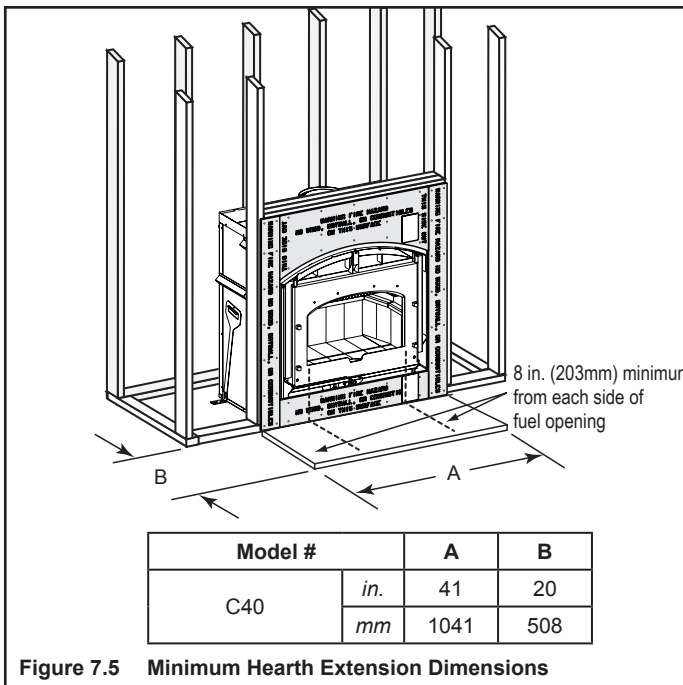

Figure 7.5 Minimum Hearth Extension Dimensions
- Refer to Figure 7.5 for minimum dimensions.
Non-combustible flooring a minimum of 20 in. (508 mm) in front of and 8 in. (203 mm) to either side of the fuel opening is required as shown in Figure 7.5. The construction of, and materials used for a hearth extension are shown in Figure 7.6. A hearth extension of this construction may be covered with any non-combustible decorative material and may have a minimum thickness as per Figure 7.6. Seal gaps between the hearth extension and the front of the fireplace with a bead of non-combustible sealant or grout.
Non-combustible flooring a minimum of 20 in. (508 mm) in front of and 8 in. (203 mm) to either side of the fuel opening is required (see Figure 7.5).